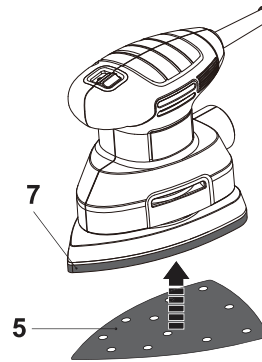

Fig. 1
- > Align the hole pattern of the new sanding paper (5) with the one in the base plate (7) to ensure efficient dust extraction if available.
- > With the hook-and-loop system, sanding paper is simply pressed on the base plate. (Fig 1).